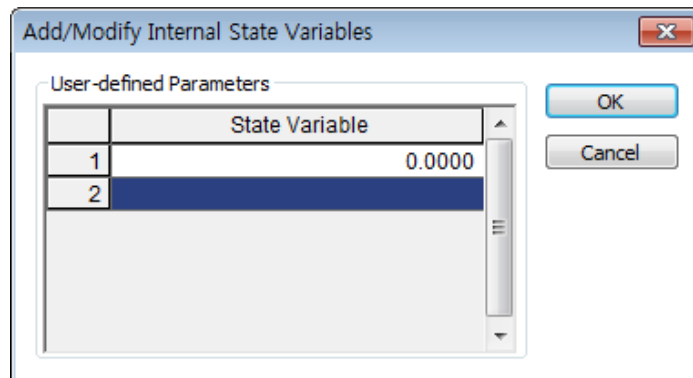

Figure 11. Internal State Variable input window
- 1) Input the coefficients for each corresponding row in Figure 11.